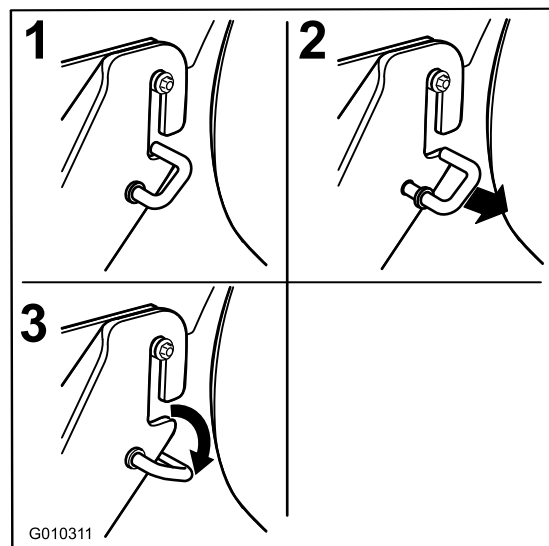

Figure 65
6. Move the spring loaded J-hooks out of the slot in the rear hanger brackets on both sides of the deck (Figure 65).